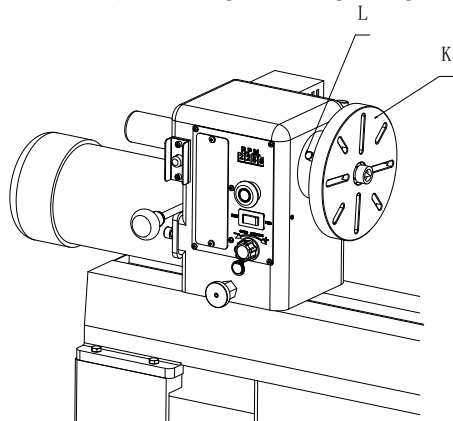

FIG.5
10. **Headstock Indexing Hole:** (L, Fig. 5) Thread indexing pin into the indexing hole making sure that it locates in the spindle hole. There are 12 holes in the spindle 30° apart. There are three holes in the headstock casting that accept the indexing pin. These holes are 20° apart. The combination of holes will allow you to mark your workpiece for evenly spaced features.